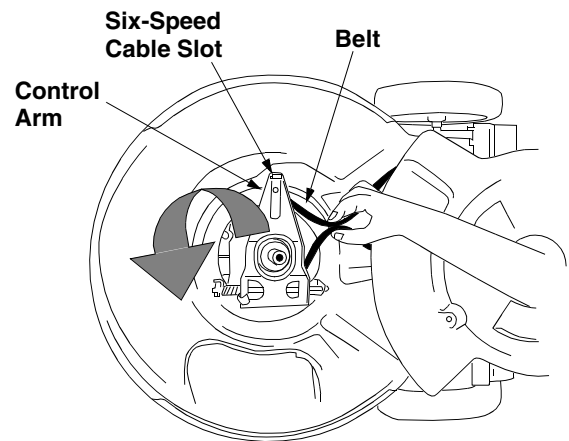

Figure 21
- Slide the belt out from between the belt keeper bracket and the idler pulley. See Figure 21.
- Squeeze the belt together and push it forward, while pressing the control arm inward towards the deck and remove the six speed cable from the slot. See Figure 21.